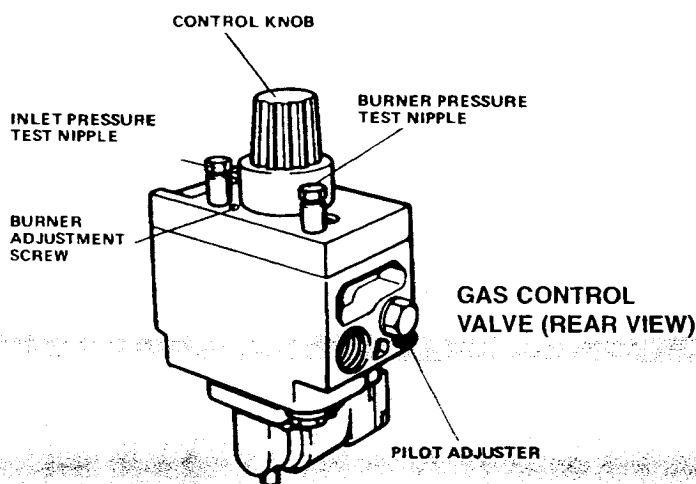

FIG. 12
- Fit a pressure gauge to the pressure test nipple at the outlet side of the gas valve (see Fig.12).